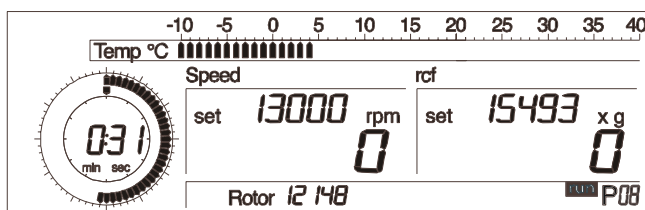

Fig. 5.20: Calling up stored programs;
- Turn the left rotary knob until “run” appears on the display (Fig 5.20).